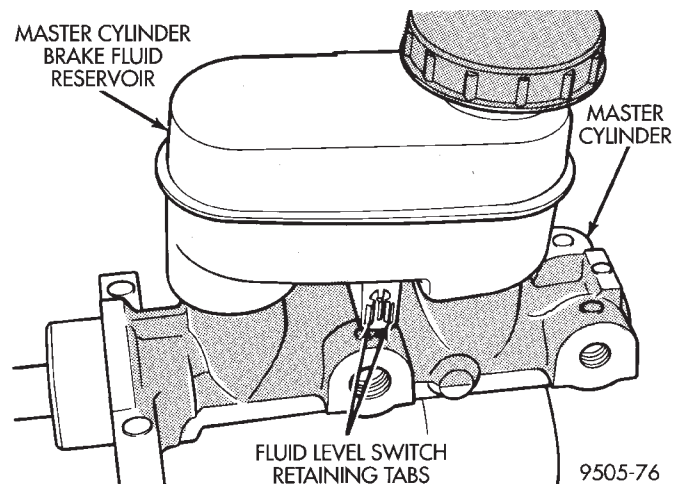

**Fig. 151 Brake Fluid Level Switch Retaining Tabs**
(2) Compress the retaining tabs (Fig. 151) on the end of the brake fluid level sensor.